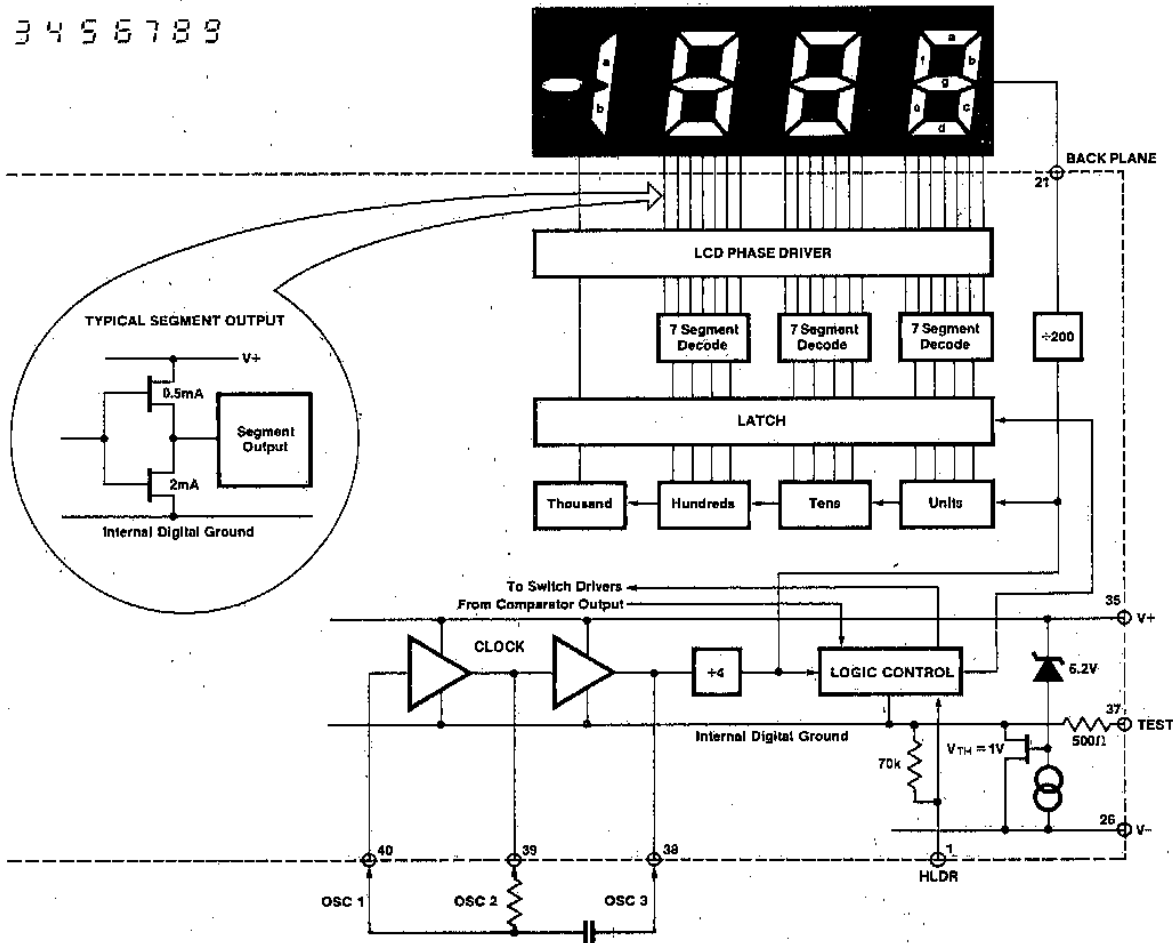

Figure 7: Digital Section 7116
Figures 7 and 8 show the digital section for the 7116 and 7117, respectively. In the 7116, an internal digital ground is generated from a 6 volt Zener diode and a large P channel source follower. This supply is made stiff to absorb the relative large capacitive currents when the back plane (BP) voltage is switched. The BP frequency is the clock frequency divided by 800. For three readings/second this is a 60 Hz square wave with a nominal amplitude of 5 volts. The segments are driven at the same frequency and amplitude and are in phase with BP when OFF, but out of phase when ON. In all cases negligible DC voltage exists across the segments.